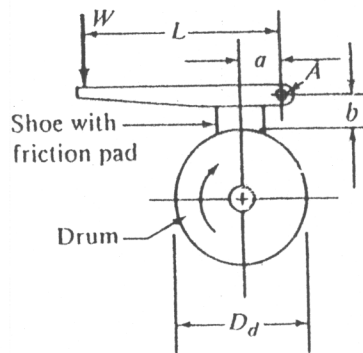

Figure 2
4. (25%) Figure 2 shows a short shoe drum brake. The lever is pivoted on pin A. The coefficient of friction is denoted by f . (a) Draw the free-body diagrams of the lever and the drum. (b) Given an actuating force W , determine the friction torque applied on the drum. (c) Derive the condition for the brake to be self-actuating, when no actuating force is required to actuate the brake. For a self-actuating brake, a negative (upward) W would be required to release the brake.